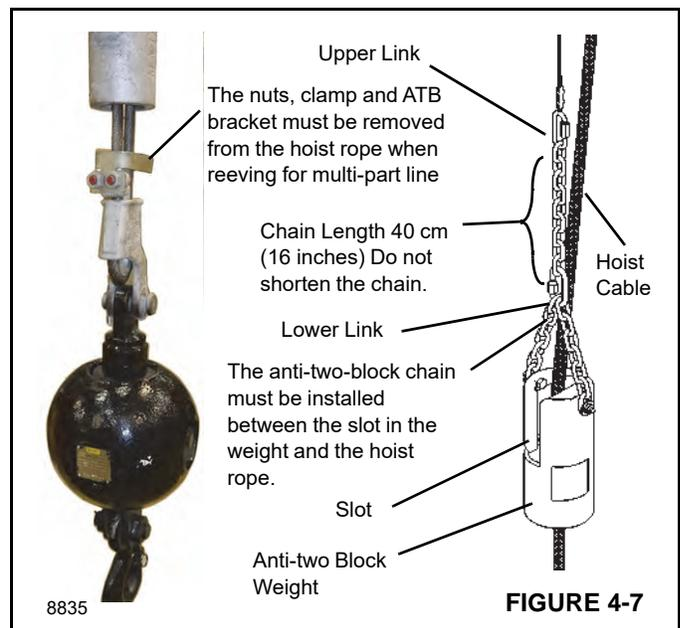

FIGURE 4-7
1. If necessary, disconnect ATB/RCL wire connector at rear of the jib. Re-connect ATB/RCL switch connector on boom tip. Move weight/chain assembly to boom tip (Figure 4-7).
To prevent the hoist rope from slipping out of the ATB weight, rig the weight as shown in Figure 4-7.
NOTE: The nuts, clamp and ATB bracket must be removed from the hoist rope in order to reeve the hoist rope through the hook block and boom nose sheaves when reeving for multi-part lines as shown in Figure 4-7. Install the clamp and nuts to the rope before performing a lift.
NOTE: The ATB bracket is for single part line use only. Remove the ATB bracket shown in Figure 4-7 from the hoist rope when changing from a single part line to a multiple part line to allow the hoist rope and wedge socket to reeve through the sheaves on the boom nose and the hook block. Install the clamp and nuts to the rope before performing a lift.